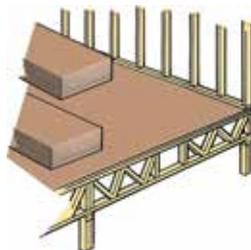

FIGURE B7-19
- ✓ Position stacks of materials flat with the longest dimension perpendicular to the Trusses as shown in Figure B7-19.